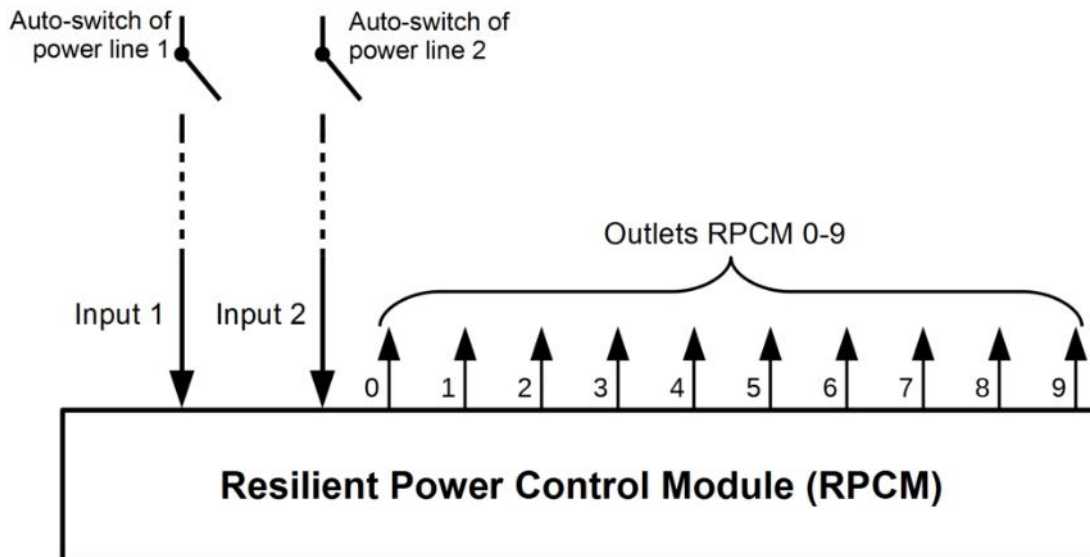
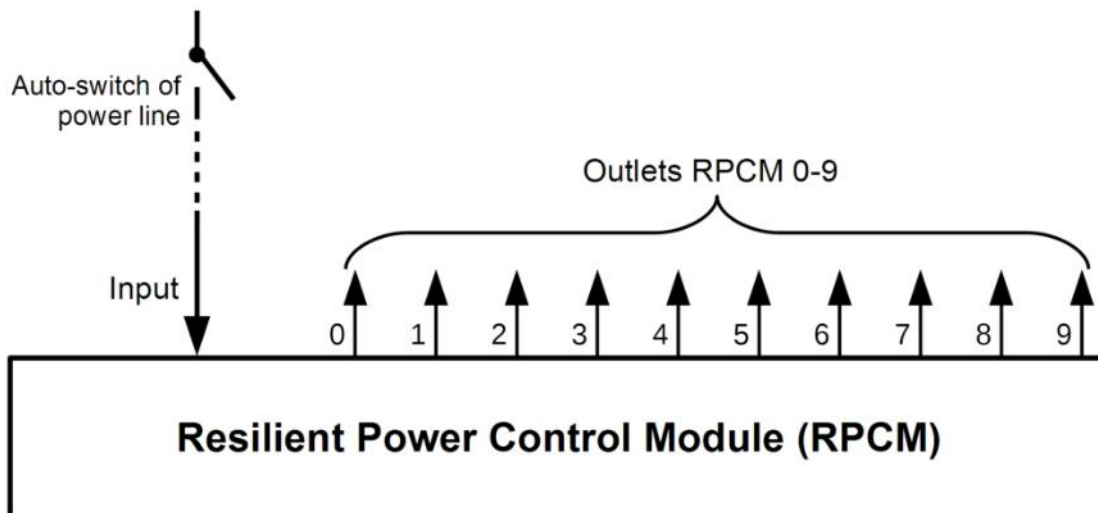

Figure 2.2.3. Connecting RPCM DC ATS 76A.
Figure 2.2.4. Connecting RPCM DC 232A.
- 3 prepare the power lines to connect the module as shown in Figure 2.2.3 for RPCM DC ATS 76A or Figure 2.2.4 for RPCM DC 232A;